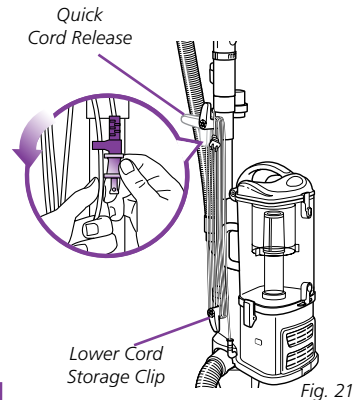

Fig. 21
- 2 Rotate the upper quick cord release to its upright position and coil the power cord loosely around the two clips. Clip the plug onto the cord to secure. (Fig. 21)